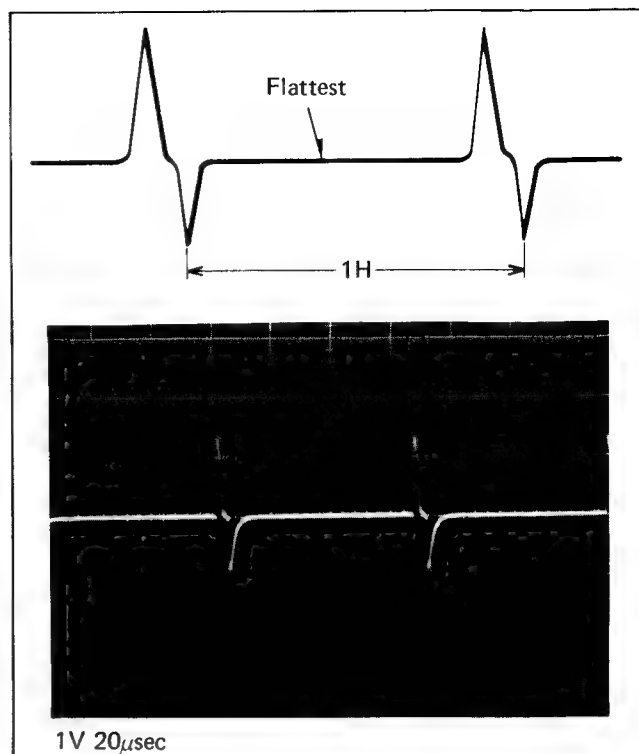

Fig. 1
- c. Adjust the horizontal sawtooth control VR611 and the horizontal parabola control VR612 so that the signal waveform is flattest during the horizontal period as shown in Fig. 1.